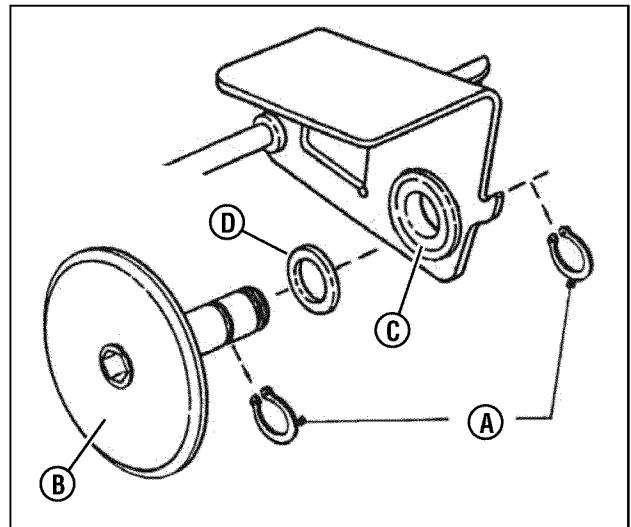

Figure 32: Replacing the driven disc
- Remove the two snap rings (A, Figure 32) which secure the rubber driven disc (B) to the driven disc assembly.
- Remove both snap rings (A, Figure 32) that secure the rubber driven disc (B) to the thrust plate.
- Drive out the existing bearing (C).